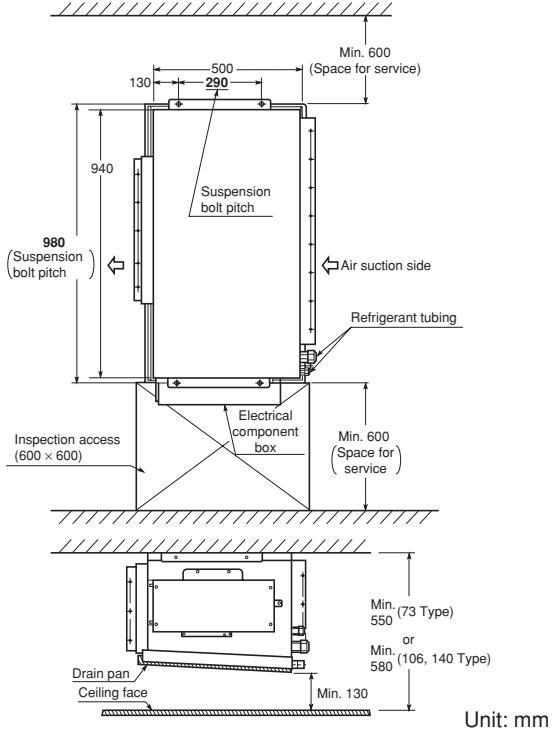

Fig. 3-113
- The minimum space for installation and service is shown in Fig. 3-113.